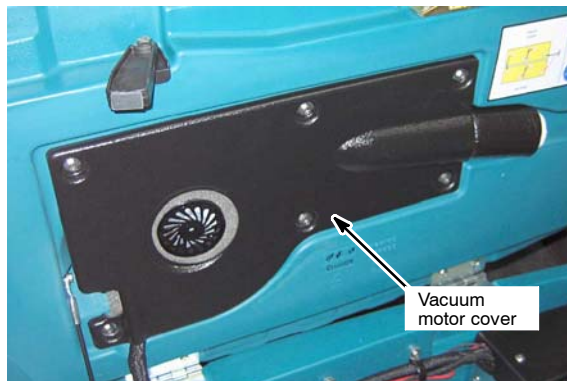

Fig. 9
7. Remove the vacuum motor cover (Figure 9).